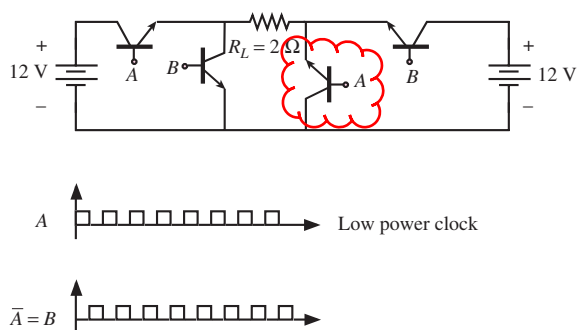

Figure P12.32
**12.32** Sketch the current through the load in the switched-mode power supply of Figure P12.32.